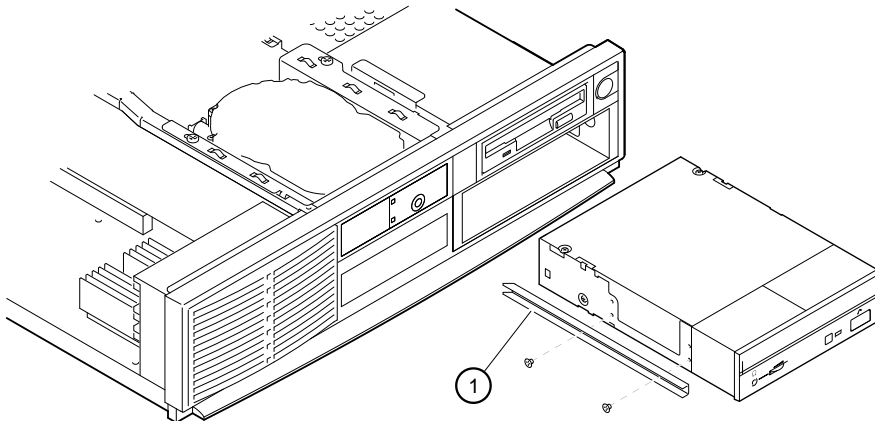

Figure 3-19. Drive Installation
4. Mount the holder ① to the side of the drive with two screws, as Figure 3-19 shows.